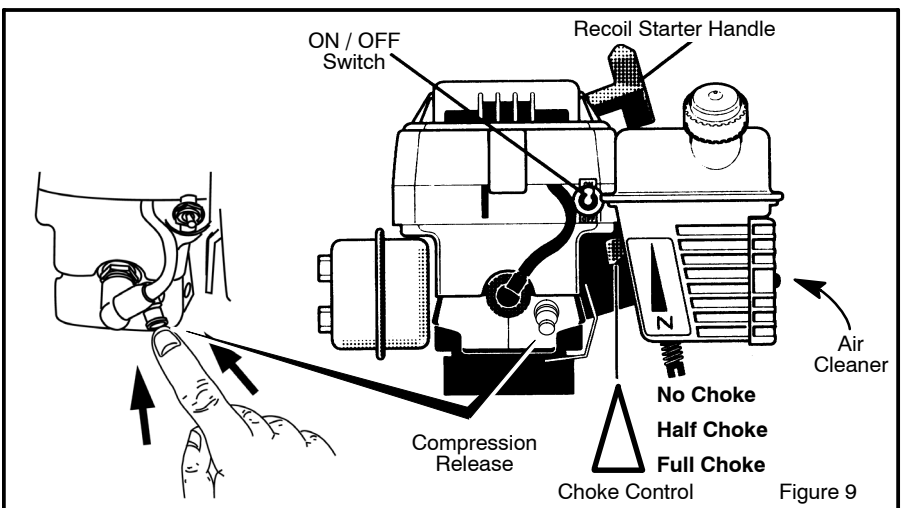

Figure 9
2. Move the on-off switch to the ON position (see Figure 9).